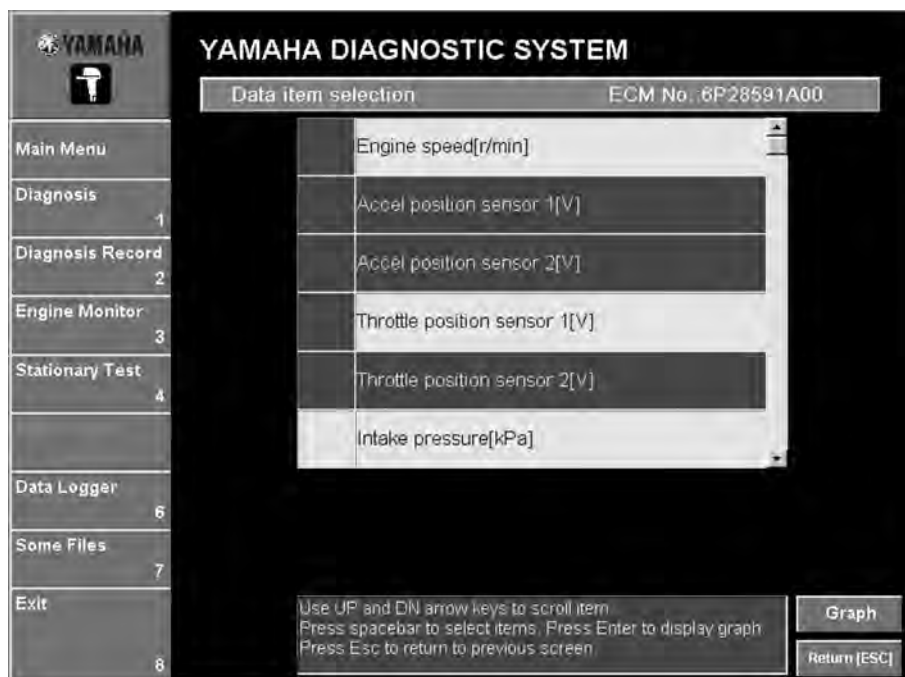
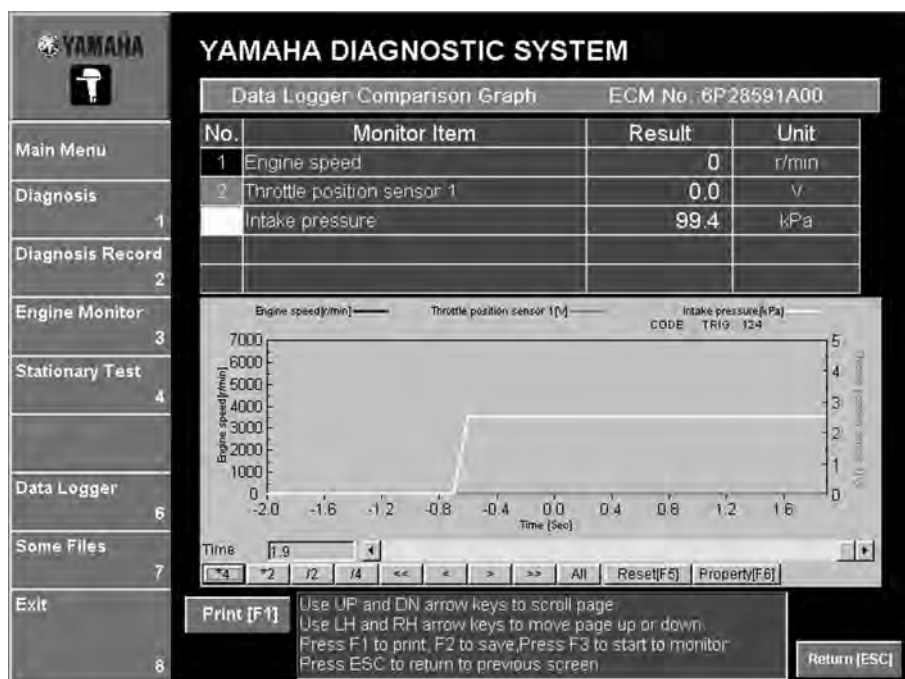

Fig. 122
Fig. 123
4. Select an item by either clicking it or pressing the up or down arrow keys on your keyboard, and then press the space bar. (Fig. 122) For a list of the items that can be selected, refer to “Items that can be graphed using Display item selection”.
5. Click the **Graph** button. (See fig. 122.) The window is displayed. (Fig. 123) For information on the buttons that appear below the graph, refer to “Graph window controls (keys and buttons)”.